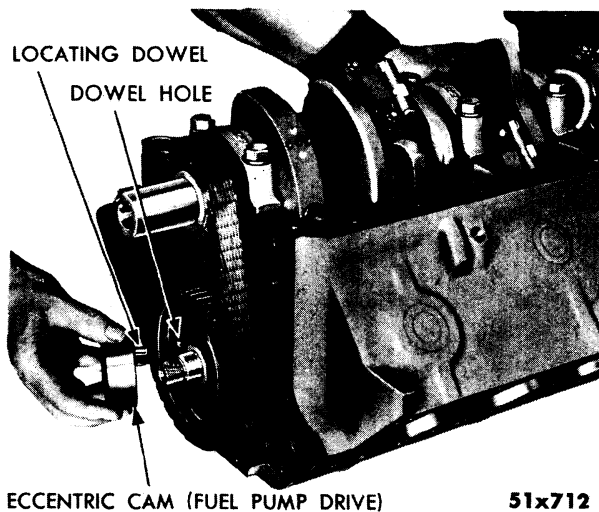

Fig. 30—Installing Fuel Pump Eccentric
- (3) With the timing marks aligned, push gear on camshaft and install the fuel pump eccentric, as shown in Figure 30. Install nut and tighten to 125 foot-pounds torque.
- (4) Slide the crankshaft oil slinger over shaft and up against gear (flange away from gear).